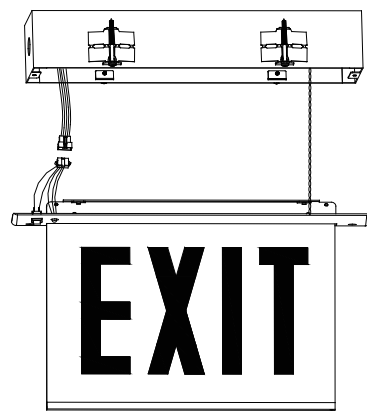

Fig. 10
8. Snap together the quick-connector harness to connect the LED board to the transformer between trim plate assembly and recessed box as shown in Figure 10.